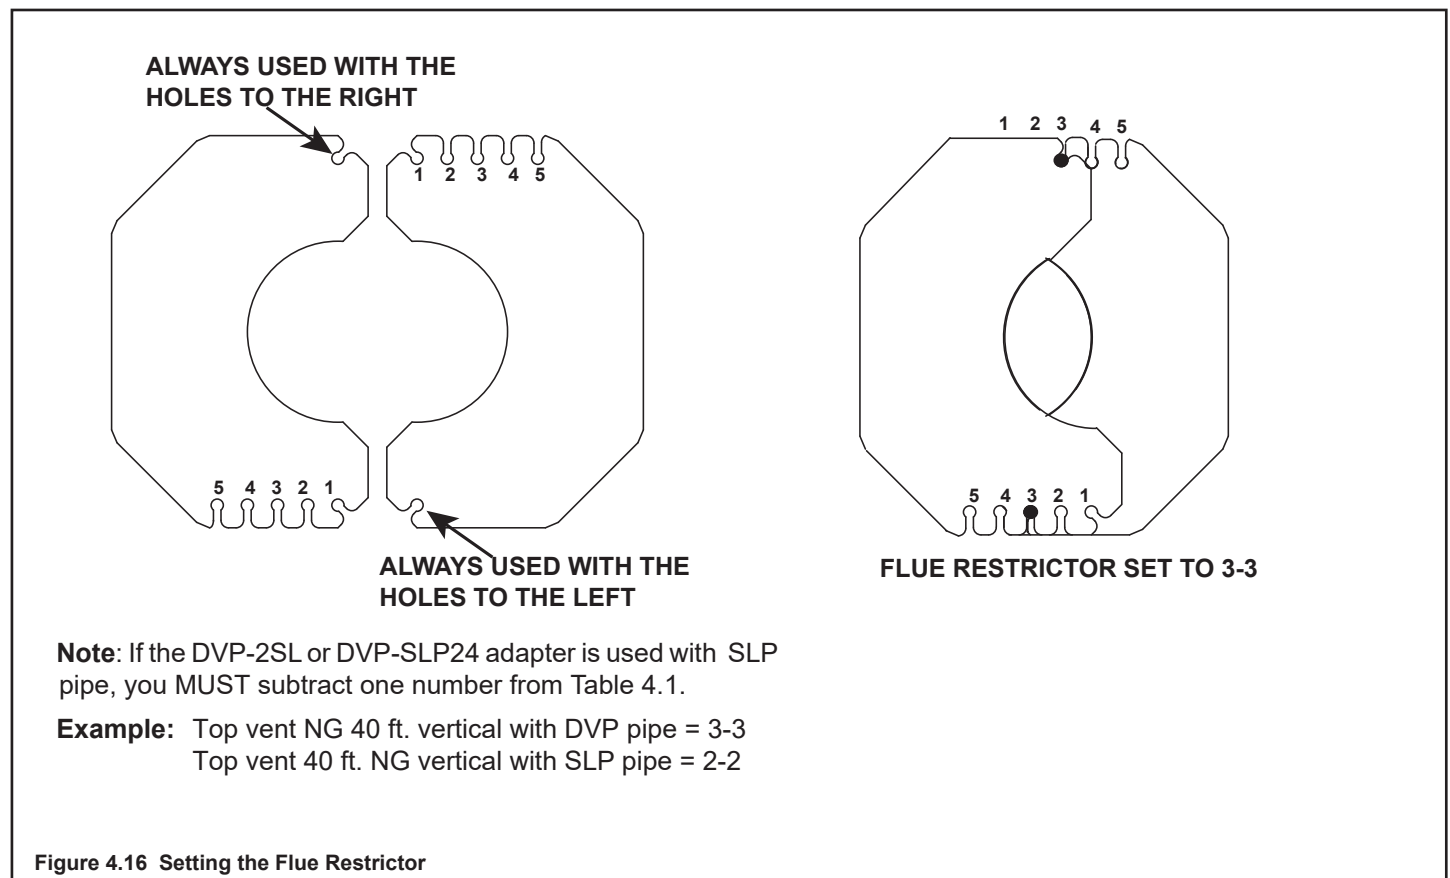

Figure 4.16 Setting the Flue Restrictor
2. Match the amount of vertical you have in the system with the chart to find the appropriate position to set the flue restrictor. See Figure 4.16 and Table 4.1.
3. Center the two flue restrictor pieces on the vent at the setting selected in step 2 and secure in place by using two self-tapping screws. See Figure 4.16.